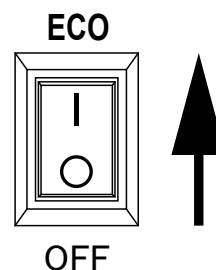

Figure 24. ECO Mode Switch (Activate)
1. To activate ECO mode, place the ECO mode switch to the ECO position (Figure 24) while engine switch is on. When electrical devices are used, the engine speed is adjusted to support the actual power consumption. When electrical devices are not used, the engine automatically operates at low speed. Fuel consumption and noise are reduced in this mode.